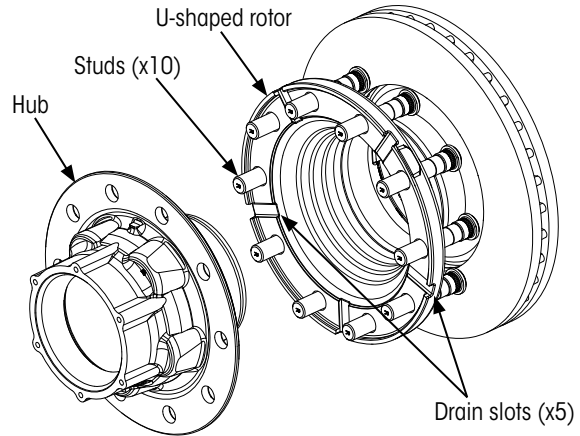
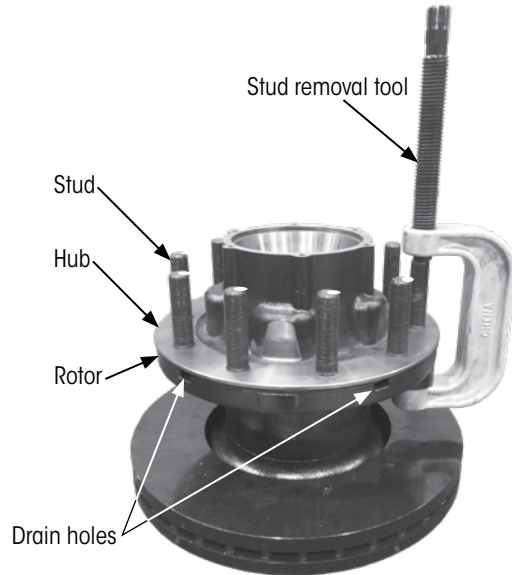
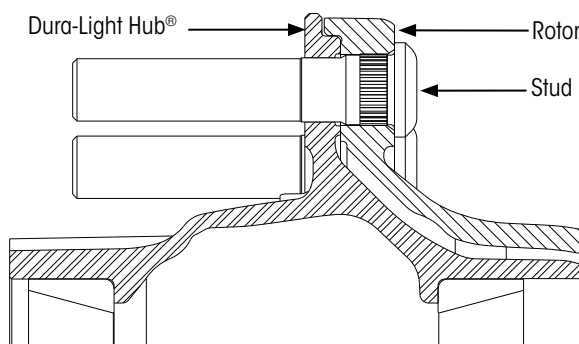
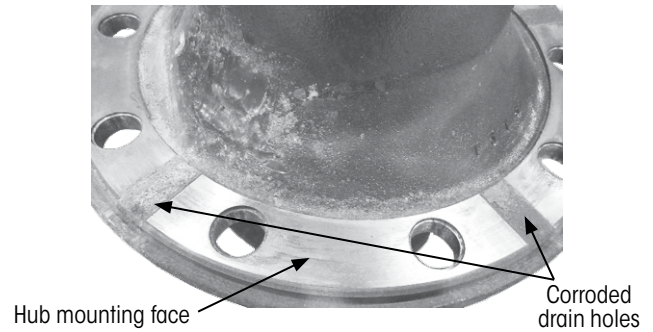

Figure 8: Hendrickson stud mounted hub & Inboard mounted U-shaped rotor assembly
Figure 10: Pressing out old studs
Figure 11: Hub and rotor assembly
Figure 12: Drain hole corrosion on a used hub
This rotor to hub assembly is clamped together using studs which are press fit into the inboard mounted U-shaped rotor and hub (Figure 8 and Figure 11 on page 5). These procedures apply to complete disassembly and reassembly when removed from the spindle.
3. Using a hydraulic press or stud removal tool (Figure 10), press out each stud. Once all the studs have been removed, the hub and rotor can be separated.
As shown in Figure 11, the hub and rotor are held together by the studs. The knurled base of the stud is
If installing a used hub onto a new rotor, corrosion may exist on the used hub pilots and where the drain holes were located (Figure 8 on page 4, Figure 10 and Figure 12). This corrosion needs to be thoroughly cleaned off with a wire brush or emery cloth before assembling the hub and rotor. It is also recommended to align the hub and rotor such that the drain slots on the rotor mounting face are located in the same position to the hub mounting face as in the original assembly (Figure 10).
**NOTICE** Ensure the hub seats flush to the rotor mounting face and pilots (Figure 11 on page 5). If not correctly seated, the hub and rotor connection may loosen and cause damage to one or more wheel-end components.